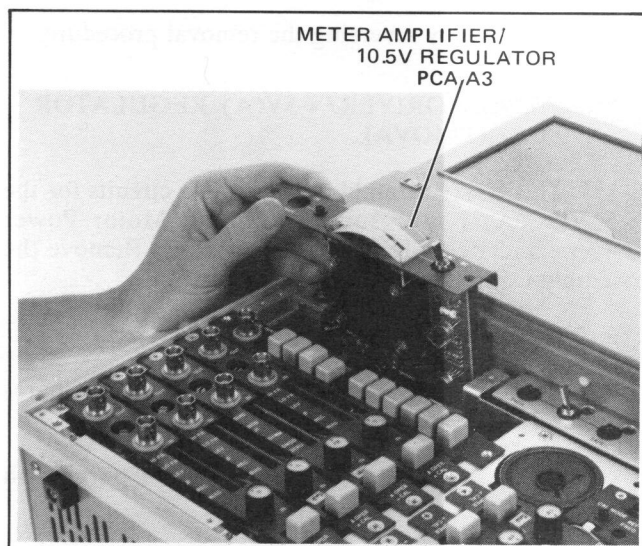

Figure 5-58. Meter Amplifier/Power Detector PCA Removal
c. Manually remove the Meter Amplifier by pulling outward while moving back and forth to free from connector (see Figure 5-58).